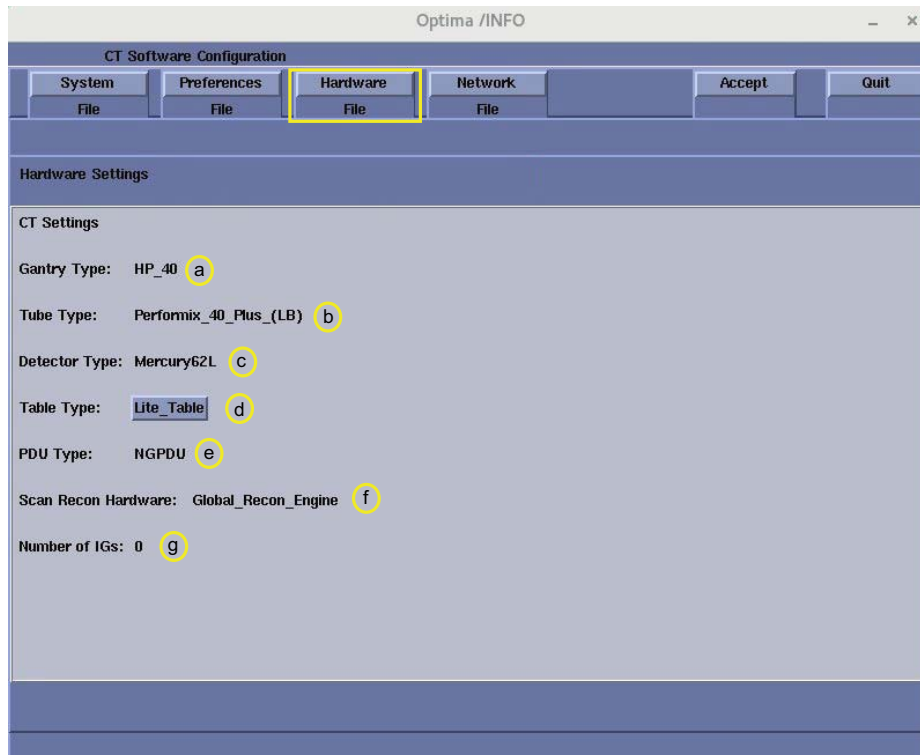

Figure 6-7 Hardware Settings
- 8.) Click the **HARDWARE** button to display the Hardware Settings Screen. See Figure 6-7.